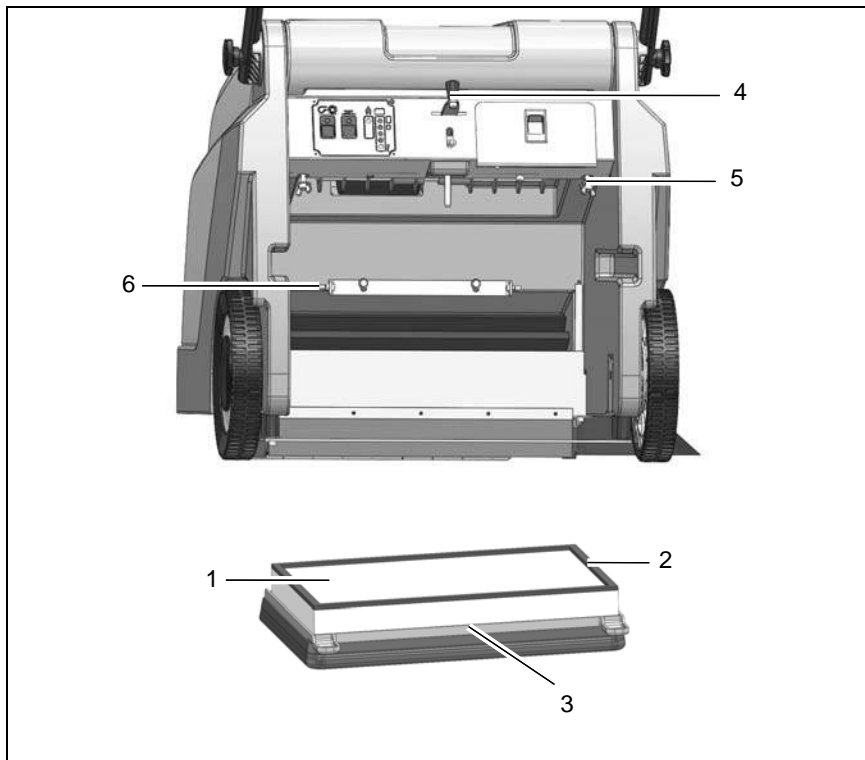

Fig.10
Clean the filter (Fig. 10/1) in the dust vacuum as necessary using the shaking device (Fig. 10/4). In the case of extreme accumulation of dirt, clean the filter as follows:
2. Loosen the wing bolts (Fig. 10/5). Pivot the filter support frame (Fig. 10/3) down and remove it.
5. Insert the correct side of filter in the filter support frame. The sealing strip (Fig. 10/2) must point towards the suction turbine!
6. Hook the filter support frame in the holder (Fig. 10/6) and fix in place with the wing bolts.
Check the filter (Fig. 10/1) every 250 operating hours for signs of wear and change it as necessary.
2. Unscrew the wing bolts (Fig. 10/5). Pivot the filter support frame (Fig. 10/3) down and remove it.
4. Insert the correct side of the new filter in the filter support frame. The sealing strip (Fig. 10/2) must point towards the suction turbine!
5. Hook the filter support frame in the holder (Fig. 10/6), if necessary, and fix in place with the wing bolts.
Check the fill level of the sweeper's container (Fig. 10/1) at regular intervals (max. load capacity 25 kg) and empty as necessary.
1. Switch the machine off and pull the locking mechanism (Fig. 10/2) on the sweeper's container (Fig. 10/1) upwards.
2. Pull the sweeper's container to the rear out of the machine using the handle (Fig. 10/4) and dispose of the waste according to the applicable environmental laws.
Check the seal (Fig. 10/3) weekly for signs of wear and change it as necessary.
1. Switch off the machine and pull the locking mechanism (Fig. 10/2) on the sweeper's container (Fig. 10/1) upwards.
2. Pull the sweepings container (Fig. 10/3) to the rear and out of the ma-
- chine using the handle (Fig. 10/4).